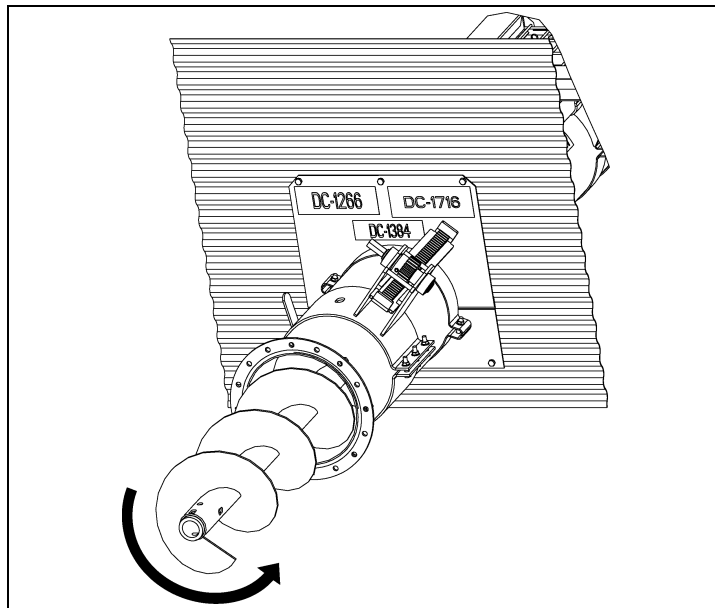

Figure 4W
2. Insert the flight into the tube with the square bushing end facing the center well and the round bushing end facing the discharge end of the tube. (See Figure 4W.)
4. On the initial stage, install with an empty bin, the installer might want to open the center well and enter the bin to check and see that the flight is seated. Once they have seen that it has seated, they will know the proper position of the flight on the discharge end when it has seated properly. (See Figure 4W.)